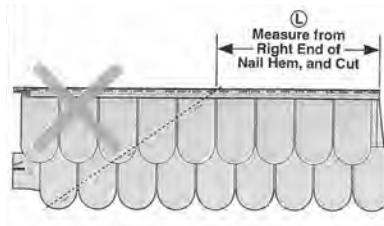

Fig.27
c. Measure panel from right end of Nail Hem and cut at correct angle (see "L" on Figure 27).